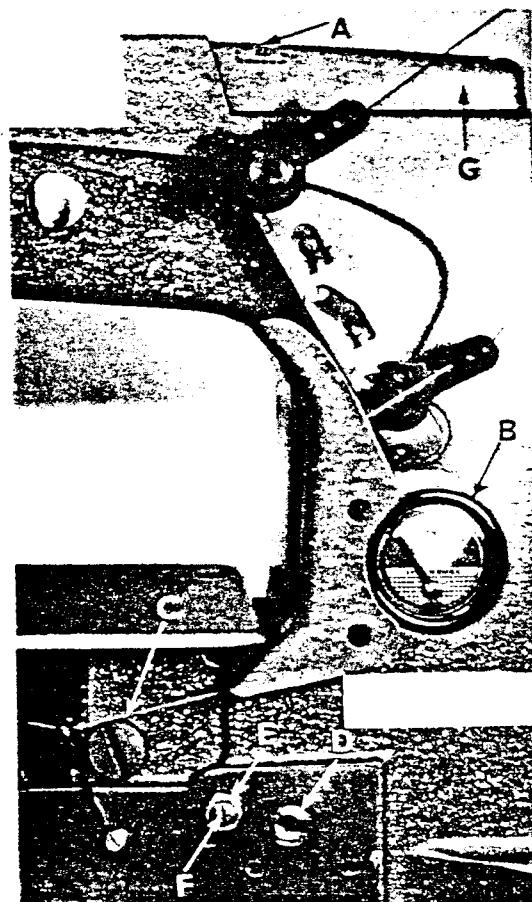
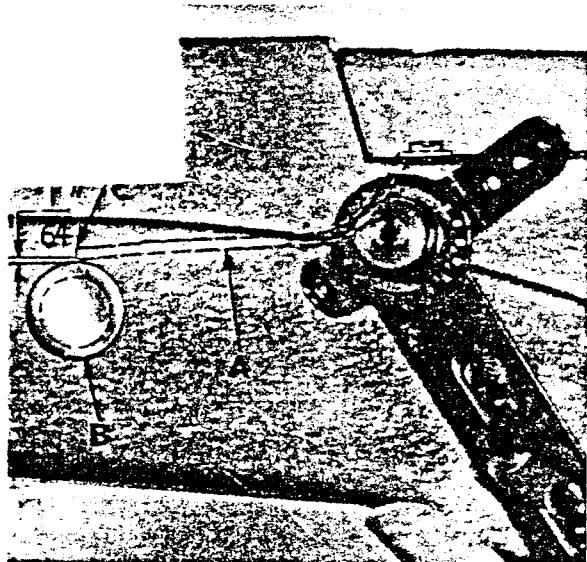

Fig. 2
Fig. 3
Use Singer Type C oil or equivalent. Fill main reservoir at plug screw in upper crank chamber cover (A, Fig. 2) and check oil level at gauge (B). Oil is at maximum level when needle is in yellow band marked "Full". Oil should be added when needle is in yellow band marked "Low". Recommended grease No. 28604 P (See Page 10).
For machines in operation check the oil for dirt and lint deposits at reasonable intervals. If dirty, change the oil. An oil change is recommended every 2000 operating hours. Oil may be drained from main reservoir by removing plug screw (C, Fig. 2) located below the cloth plate at front of the machine, or by removing the lower crank chamber cover, located at the back of machine.
2. Remove the oil reservoir plug screw (C, Fig. 2) and tip machine forward to drain oil from the reservoir.
5. Fill main reservoir to a level even with the bottom contour of the knee press shaft bushing (D, Fig. 2).
6. Loosen lock nut (E) on calibrating screw (F), and turn the screw to the left or right until the gauge needle rests in the middle of the yellow band marked "LOW".
7. Tighten lock nut (E) and replace plug screw (C).
Remove the head cover and upper crank chamber cover (G, Fig. 2). Check position of needle lever bearings oiler(A, Fig. 3) located inside the arm casting, below the upper crank chamber cover, which lubricates the needle lever stud (B). Make sure it is tilted downwardly and that its delivery end (C) contacts the inside wall of the bed casting at the back, just above the notch of the needle lever shaft stop collar. (Do not allow the oiler to rest on the needle lever.) Allow 1/64 inch clearance as in Figure 3.